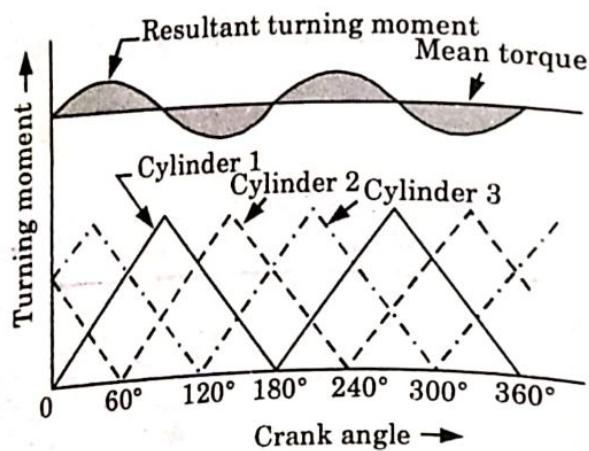

Fig. 3.17.1. Turning moment diagram for a multi cylinder engine.
3. Fig. 3.17.1 shows a three cylinder steam engine crank effort diagram. In this, the first cylinder is the high pressure cylinder, second cylinder is the intermediate cylinder and the third cylinder is the low pressure cylinder.